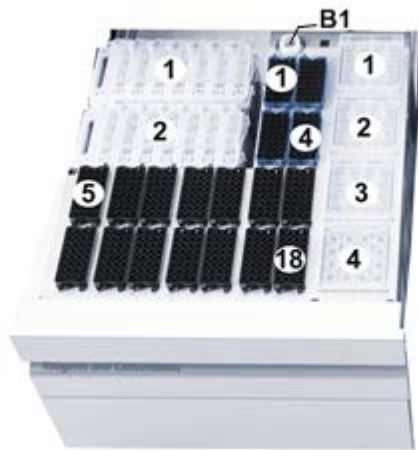

Figure 2. Position of the reagents and consumables on the QIAasymphony SP.
6. Load the “Reagents and Consumables” drawer (Figure 2).
- Take the reagent cartridge (RC) and before using for the first time, check that Buffers QSL2 and QSB1 in the cartridge do not contain a precipitate. If Buffers QSL2 and QSB1 contain a precipitate, follow the instructions on page 16.